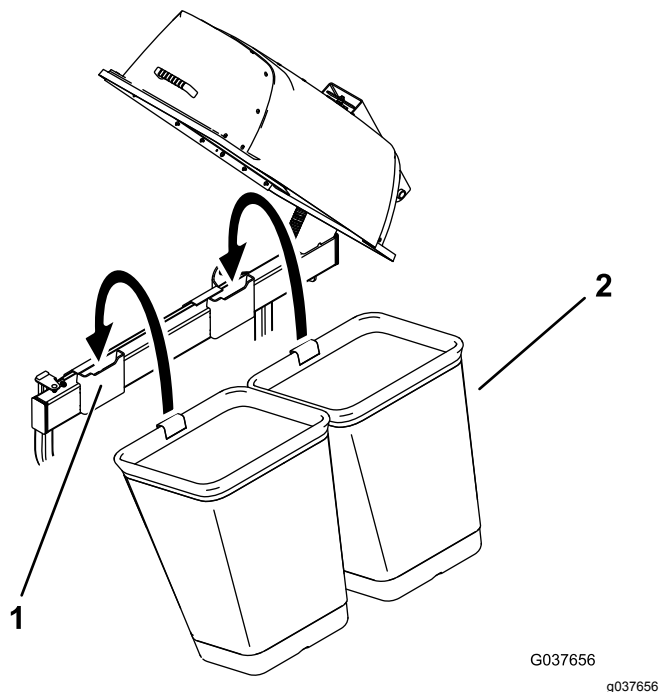

Figure 18
2. Install the bags onto bag mounts (Figure 18).